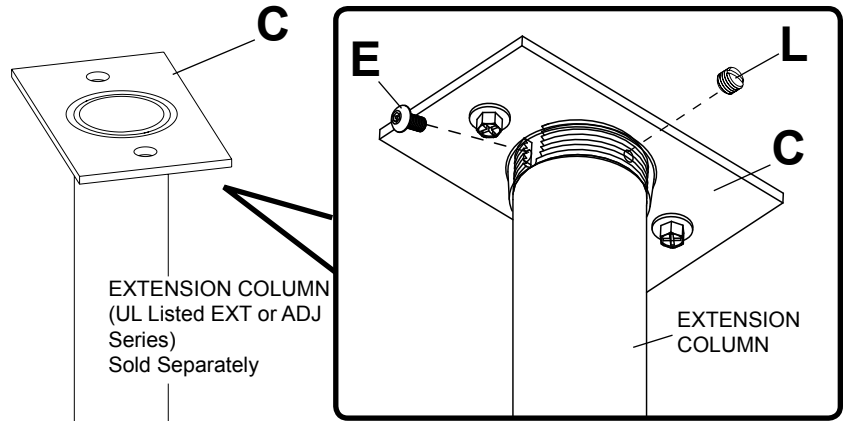

figure 4.1
4 Screw extension column to ceiling plate (C). Align the notch with one of the four holes in the ceiling plate (C) and secure extension column with a M5 x 10 mm socket pin screw (E) using security allen wrench (U). See figure 4.1